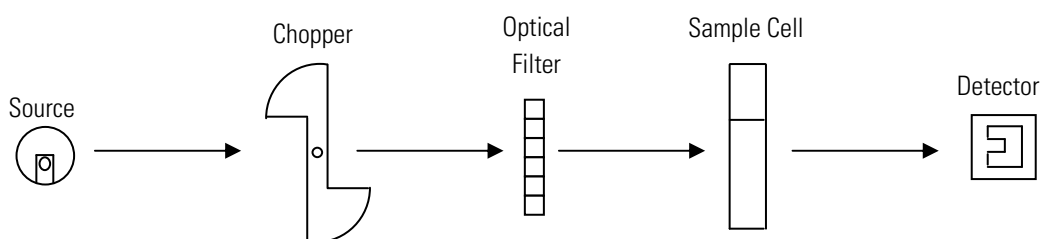

Figure 1–1. Example of Simple Single-Beam NDIR
Since most compounds absorb IR radiation only at specific wavelengths determined by molecular structure, it is possible to measure the concentration of one specific component in a mixture. For example, the absorbance spectra of carbon monoxide and carbon dioxide are shown in Figure 1–2. Based on the absorbance spectra shown in these figures, the concentration of carbon monoxide (CO) can be determined by measuring the absorbance of infrared energy at a wavelength of approximately 4.6 micrometers, and the concentration of carbon dioxide (CO₂) can be determined by measuring infrared absorbance at a wavelength of approximately 4.2 micrometers.